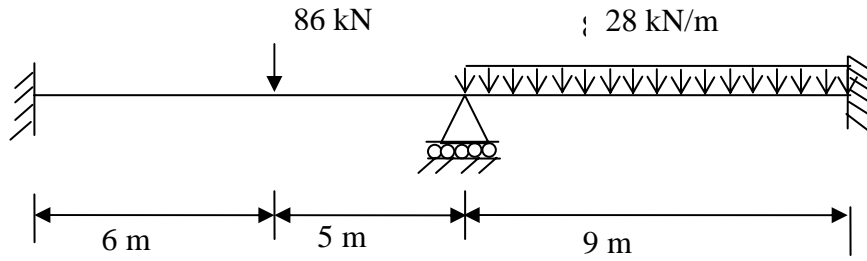

Fig.3
5. Analyse the continuous beam using Flexibility method, shown in Fig.3, and draw shear force and bending moment diagrams. Assume constant EI throughout the beam. Locate and find the distances of the points of contraflexure from supports. Draw elastic curve. [15]